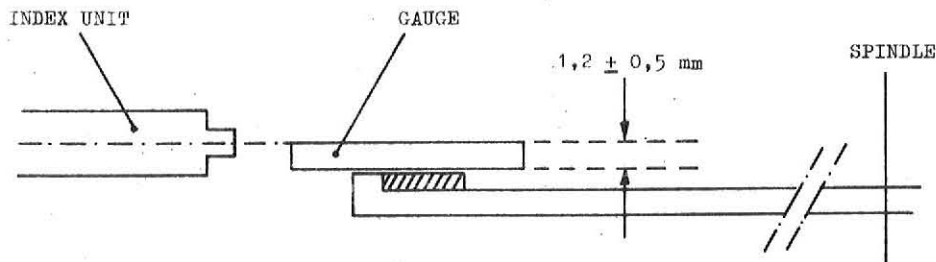

Figure 7-26
2. Adjust the height of the index unit see fig. 7-26.